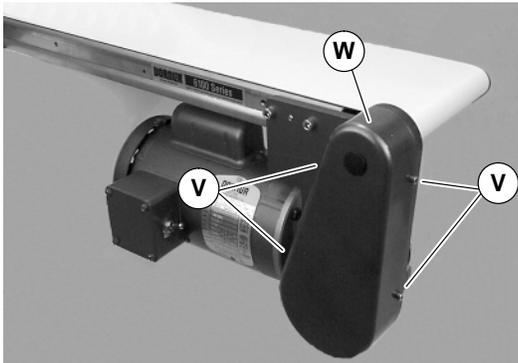

Figure 18
- a. Remove four (4) screws (V of Figure 18) and remove cover (W).